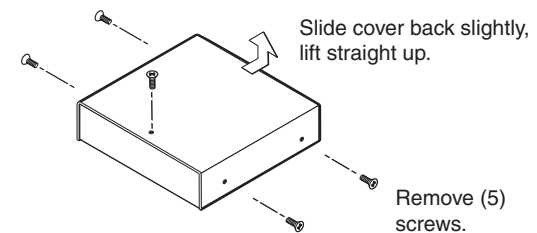

Figure 2-3 — Opening the interface cover
2. Remove the interface cover (the top half of the enclosure), as shown in figure 2-3. Remove the screws from the enclosure, slide the cover slightly towards the back of the enclosure, enough to clear the gain/peak switch, lift the cover, and place the cover upside down next to the base of the enclosure.